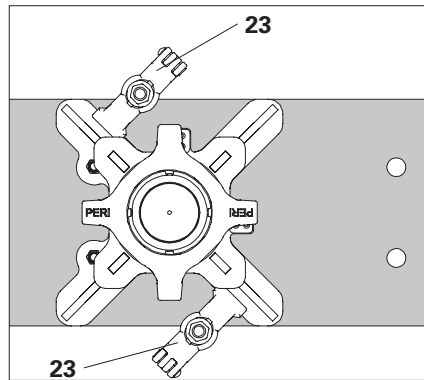

Fig. A6.11a
2. Fix the first lowering jack with centring bolts (**21**) in the holes of the main beam and additionally secure with two opposing girder clamps (**23**). (Fig. A6.11a + A6.11b)